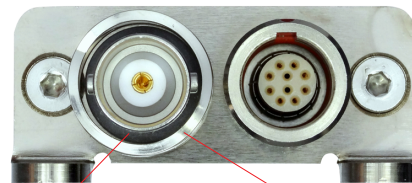

Fig. 25 Multi corrugated spring ring
- ➡ Connect the signal ground (GND) with the housing ground (PE), e.g. by clamping the supplied multi corrugated spring ring between controller housing and BNC cap (or BNC connector), see Fig. 25, see Fig. 26, see Fig. 27.